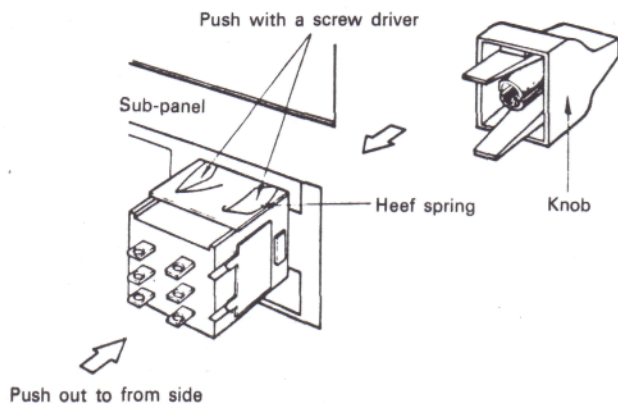

Fig. 23
- 1) Remove the knobs and dial plate from the front panel per item 1.
- 2) Remove the meter per item 7.
- 3) Pull the switch out towards the front of the transceiver while holding down the securing leaf spring as shown in Fig. 23.